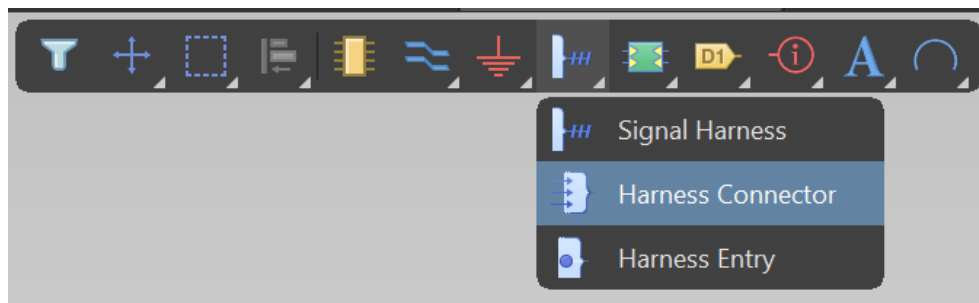

Figure 4. Placing a Harness Connector
9. From the **Place** menu, select **Harness**, then **Harness Connector**. This command can also be accessed by right-clicking on the icon from the *ActiveBar* as shown in Figure 4.